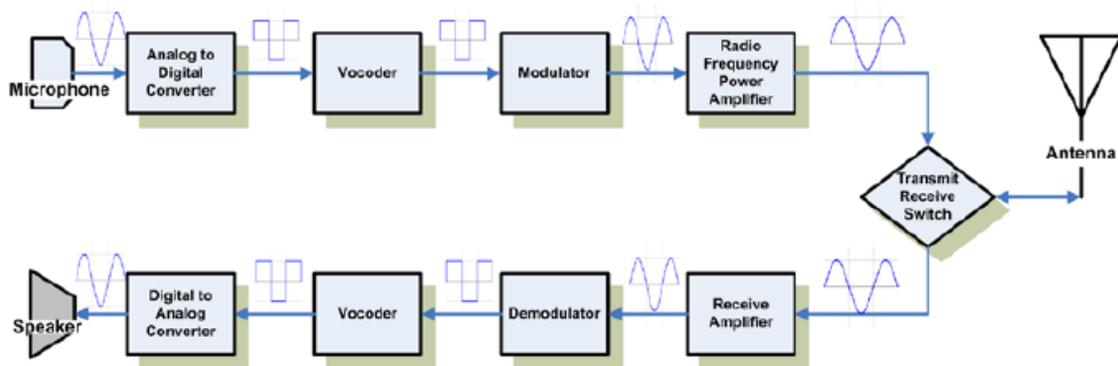

Figure 16
6. Analog is sent to the speaker (Figure 16).